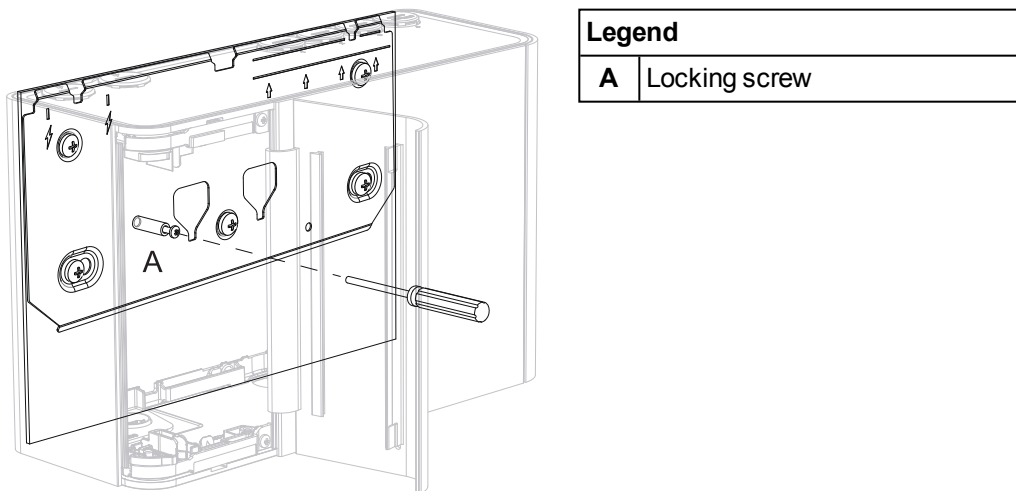

Figure 4-22: Locking Screw
7. Open the door on the front of the detector (Figure 4-22). Refer to Section 7.2 on page 78 for further information on how to open the door.
8. Insert and tighten the locking screw (A). This secures the detector to the mounting bracket.